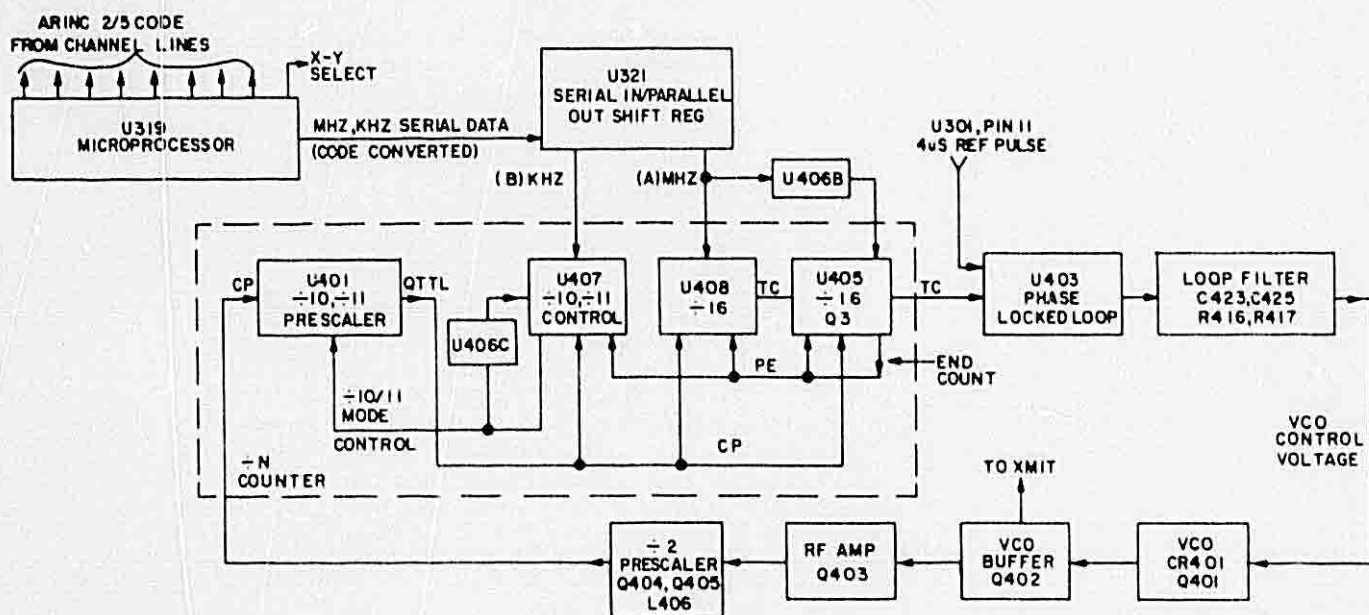

FIGURE 3-19. SYNTHESIZER BLOCK DIAGRAM
The following describes synthesizer operation when channel 116.9 MHz (see Table 3-8: 116 X = VOR 116.9-- transmitter 1140 MHz, synthesizer 570 MHz) is selected by the front panel MHz and KHz knobs. Refer to Figure 6-3 schematic and Figures 3-19 and 3-20.
When the $\div N$ counter has reached its end count, Q3 (pin 11) of U405 goes logic LOW. Q3 is connected to the parallel enable (PE) inputs of U405, U407, U408. When the PE input is logic HIGH the counters are set in the Count Mode, when PE is logic LOW, the counters are set in the Load Sequence. In our example, the $\div N$ number is 1140 and the count sequence will begin after the counters are loaded. Refer to Figure 3-19 and 3-20.
As the count begins, the 285 MHz pulses into U401 are being divided by 11. The Q3 ($\div 16$) and Q1 ($\div 4$) outputs are connected to NAND gate U406C and as shown in Figure 3-19 when both are logic HIGH, the output of U406C goes logic LOW, freezing (HOLD) the counter U407. The logic HIGH at Q1 and Q3 allows the junction of R420/R421/R422 to rise to +5 volts which now sets U401 in the $\div 10$ mode. U401 is now locked in the $\div 10$ mode for the rest of the count. At this point in time note that 120 of the 285 MHz pulses have been counted and U401 has put out 11 clock pulses. On the 15th clock pulse from U401, the TC (pin 15) output of U408 goes HIGH and on the 16th clock pulse goes LOW.